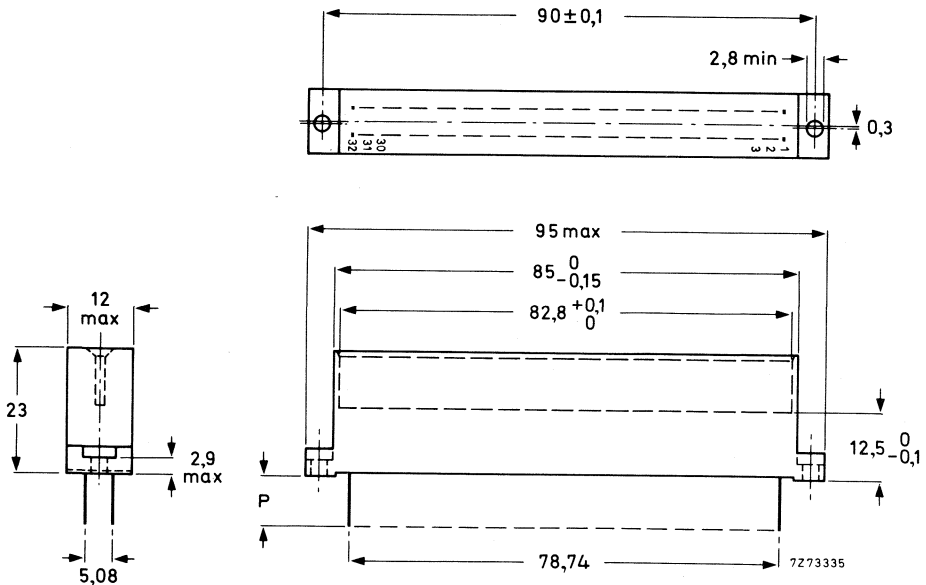

Fig. 1 Dimensions of connector types B and C (DIN 41613)
- board edge sockets (Fig. 1) for connecting daughter boards at right-angles to mother boards in vertically stacked card systems;